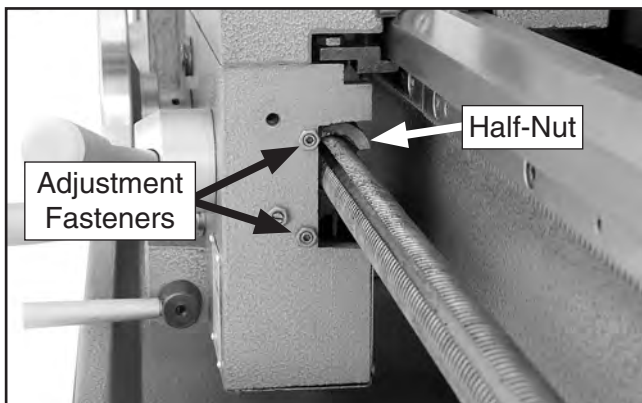

Figure 88. Half-nut gib adjustment hex nuts and set screws (thread dial removed).
3. Loosen the two adjustment hex nuts, then adjust the set screws in small increments (see **Figure 88**).